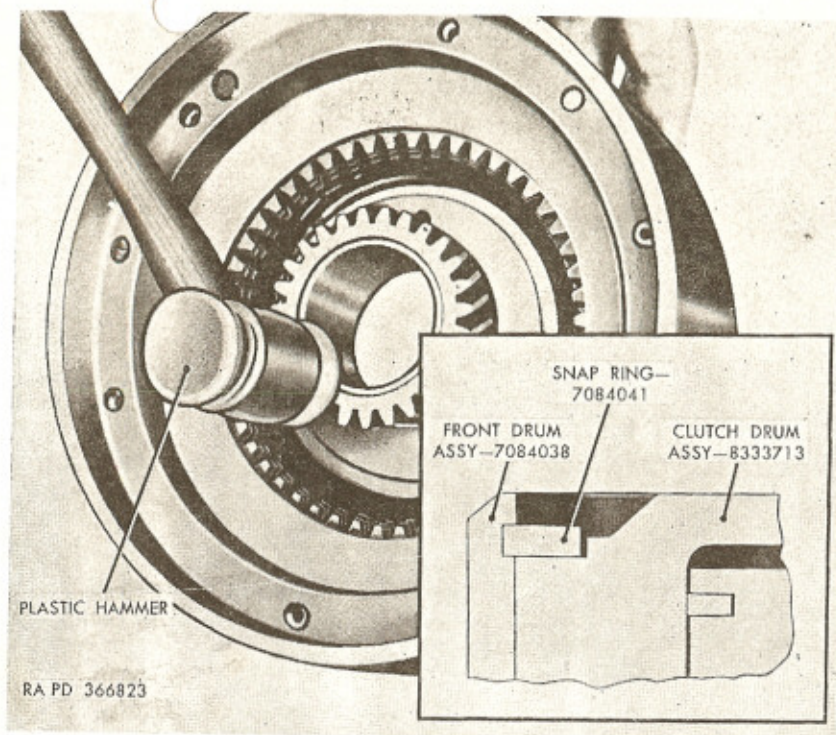

Figure 114. Seating clutch drum in front drum.
l. Remove front planetary unit from arbor press, then tap gear end of clutch drum with plastic hammer to seat drum against snap ring (fig. 114).